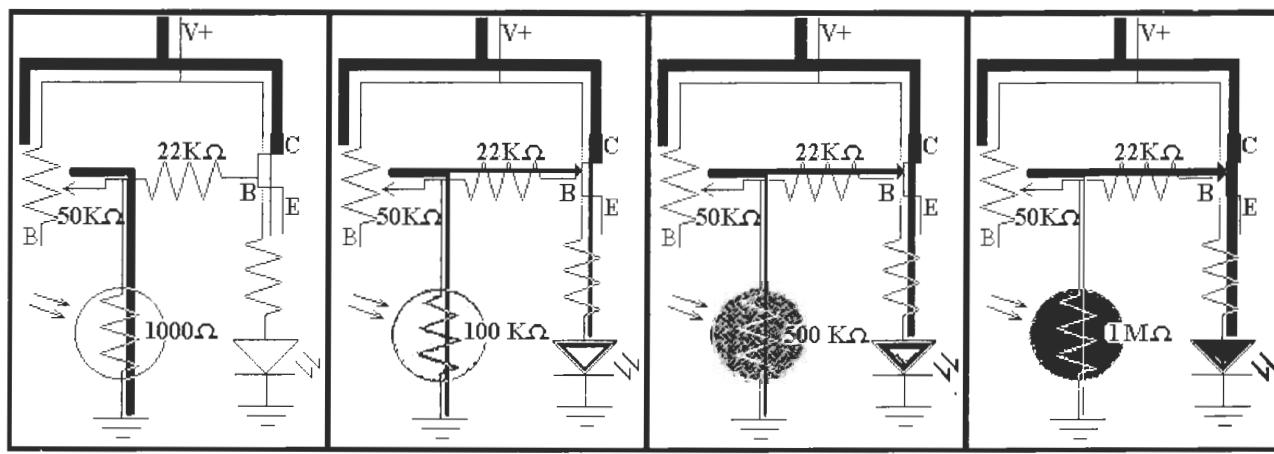

Figure L11-3
Figure L11-3 shows the movement of current and voltage in the circuit as the light changes. Remember the NPN transistor needs positive voltage to its base to turn on.
1. Set the pot so the resistance between legs "A" and "C" center is close to 50-kilo-ohm resistance. Figure L11-3 shows how the voltage and current move in the different conditions for this setup.